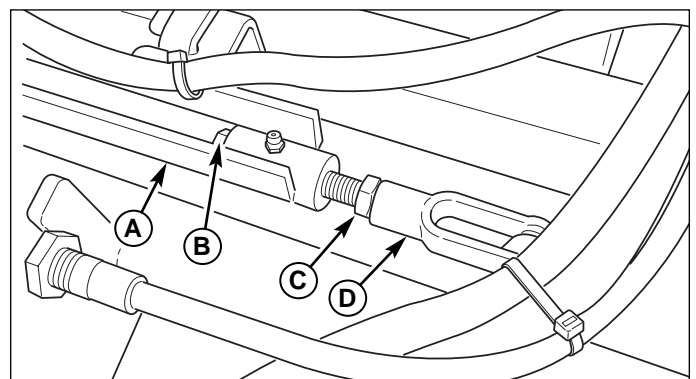

Figure 39. Center Lift Link Adjustment
7. Raise the seat plate to access the center lift link (A, Figure 39).
8. Loosen the jam nut (C) on the lift clevis (D) and turn the adjuster bolt (B) until the measurements are equal. Tighten the jam nut against the lift clevis.